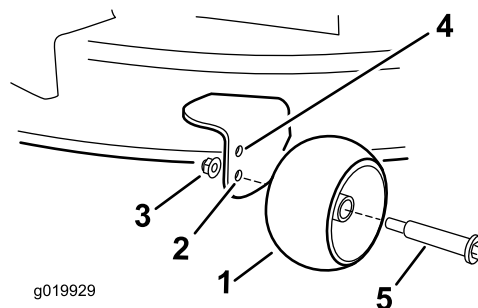

Figure 24
- Upper hole—use this position with the mower deck in the 63 mm (2-1/2 inches) and below the height-of-cut positions (Figure 24).
- Lower hole—use this position with the mower deck in the 76 mm (3 inches) and above the height-of-cut positions (Figure 24).